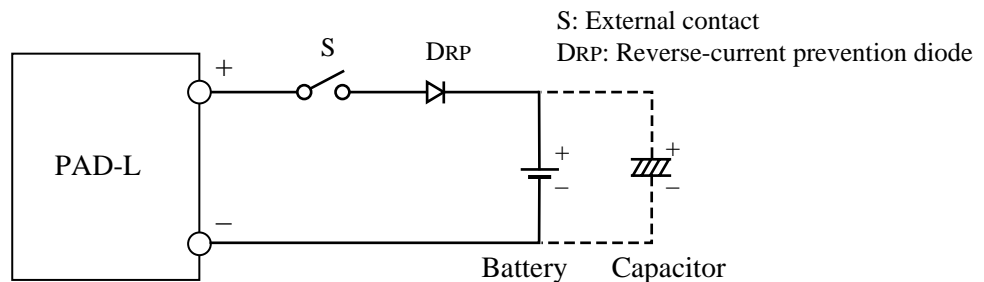

Fig. 4-19 Constant current charge circuit
In Fig. 4-19, use the unit VOLTAGE setting knob to set a charge-end voltage and the CURRENT setting knob to set a charge current. Constant current charging begins when the external contact (S) is closed, and the unit enters the constant voltage mode when the output voltage of the unit reaches the set charge end voltage, halting constant current charging.
- **In Fig. 4-19, note the setting of the charge-end voltage. A voltage applied across a battery or capacitor will be lower than the output voltage of the unit by a portion of the forward voltage (VF) of the reverse-current prevention diode (DRP).**
4. Connect a battery or capacitor across the output terminals as shown in Fig. 4-19.
⚠ CAUTION • When a charged battery is connected to the unit, if the POWER switch of the unit is OFF or the output voltage of the unit is lower than the charged battery voltage, a current of several hundred mA flows into the unit. If this current presents problems, connect a reverse-current prevention diode (DRP) to the circuit in series, as shown in Fig. 4-19.